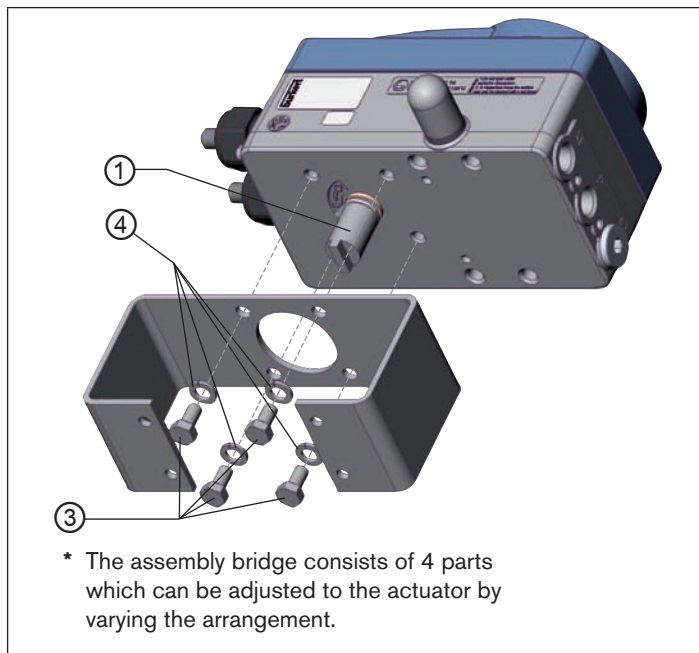

Fig. 13: Attach assembly bridge (schematic representation)
- Attach the assembly bridge to the positioner using 4 cheese-head screws ③ and circlips ④. (see "Fig. 13").